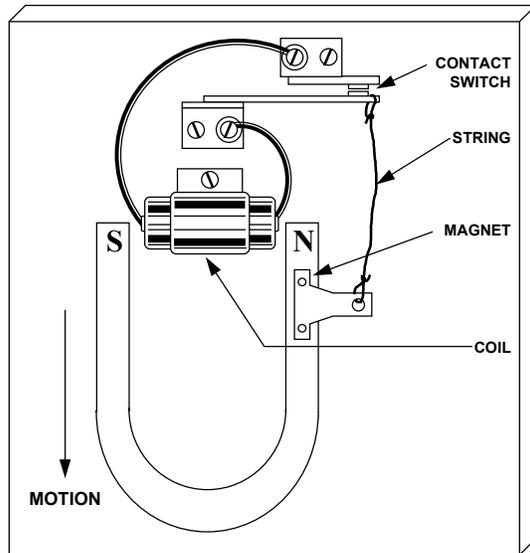

Figure 9-5
Suppose we set up the apparatus as shown in Figure 9-5 with a contact switch connected across the coil, and the spring of the contact switch connected to the magnet with a piece of string such that as soon as the magnet has moved a slight distance from the coil, the string will pull the switch open.
Actually the device pictured in Figure 9-5 is a form of magneto. Some old fashioned stationary gasoline engines employed an ignition system very similar in principle to this simple demonstration apparatus. Such engines had the breaker contacts inside the engine cylinder instead of a spark plug, one contact being pivoted so that it can be moved away from the other at the instant ignition is desired to occur in the cylinder. The arc which occurs at the breaker points then ignites the gas in the cylinder. Obviously such an arrangement is not suitable for aircraft ignition for a variety of reasons, but the principle involved forms the basis of design for all types of magnetos, as will be pointed out later in this text. It is not too difficult to "draw" an arc between two contacts while they are in the process of separating. This is because the voltage required is quite low.
To obtain this high voltage with a single coil as shown in Figure 9-5, would necessitate such a large coil and magnet that it would not be practical and would require a good deal of power to move the magnet rapidly enough to produce the required rate of change of flux linkages.
The pole shoes (D) and their extensions (E), together with the coil core (C) as shown in Figure 9-8, form a magnetic path similar to that made by the coil core illustrated with the common horseshoe magnet in Figure 9-5. This magnetic path produces a concentration of flux in the core of the coil when the magnet is in the positions shown in Figure 9-8. This is known as the "full register" position of the rotating magnet.
By using a current interrupter of the type described in connection with Figure 9-5, we can meet the requirements for precisely timed sparks with a mechanism of minimum size and weight. Further, we can increase the speed of the flux change greatly, so that high voltage can be obtained with a relatively small coil.
However, you will recall in connection with Figure 9-5, the opening of the contacts caused a considerable arc at the contact surfaces, this arc having been used for ignition purposes in some of the early gasoline engines.